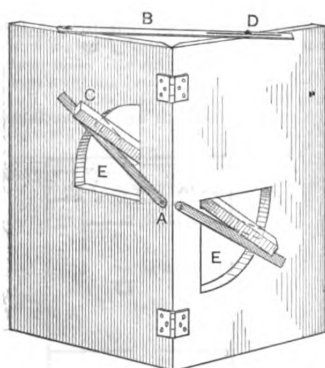

Fig. 24.—Box in Position.
drum. Fig. 24 is a view of the box, showing the openings E E, the strip C and the stay B for holding the box when fastened with the set screw D. At the angle of the box and openings are pinned two strips, $\frac{1}{4}$ inch by 1 inch, extending over the openings. These when set at the required inclination are held in place by a small nail ready for the strip to be passed through. This strip will represent the plank as it shows the plane. Fig. 25 is a plan of the box with the strip passing through the openings. The strip just
28. The lower line of the rail is then marked and the height is taken. This inclination or pitch is put on the box or the strips set to it, and then the strip for marking is put in place, A, Fig. 24, and the lines transferred to the plank. Those on the face are put on the face of the plank and those on the edge to the edge of the plank. If the strips are set at different angles then it will cant the plank at the angle of the box. This will be found by applying a bevel at the inside angle of the box and crossing the face of the strip as at B, Fig. 25, and in elevation Fig. 30. This is then applied at the edge and the